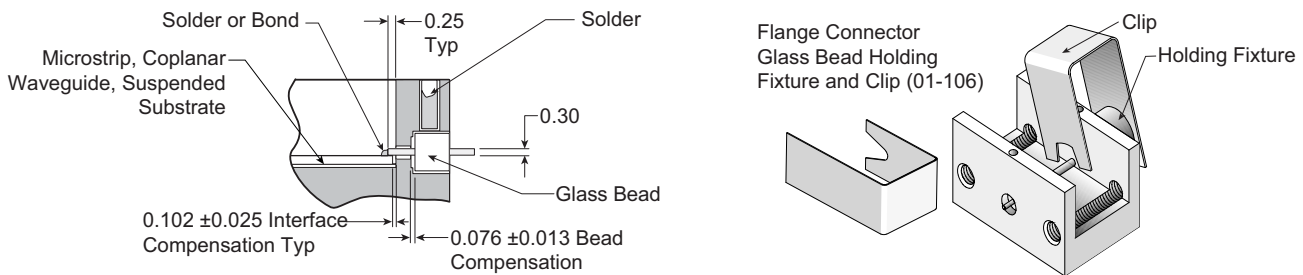

Figure 6-3. K103F-R Glass Bead Assembly
1. Install the microstrip into the housing (see Figure 6-3 for dimensional tolerances around the glass bead).
3. Flux the glass bead and insert it, long-end first, into the 01-106 Glass Bead Holding Fixture (Figure 6-3).
5. Secure the holding fixture in place by using the spring clip furnished with the fixture (Figure 6-3). Position the spring clip so as not to obstruct the solder access hole in the housing. Ensure that the glass bead is centered and that it is making good contact with the microstrip.